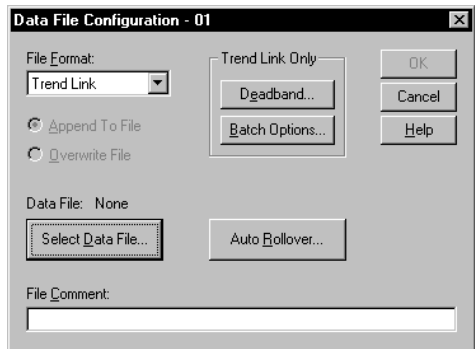

Figure 10.
1. Click on the Data File button on the Instrument Configuration window. This will move you to the Data File Configuration screen as shown in figure 10.